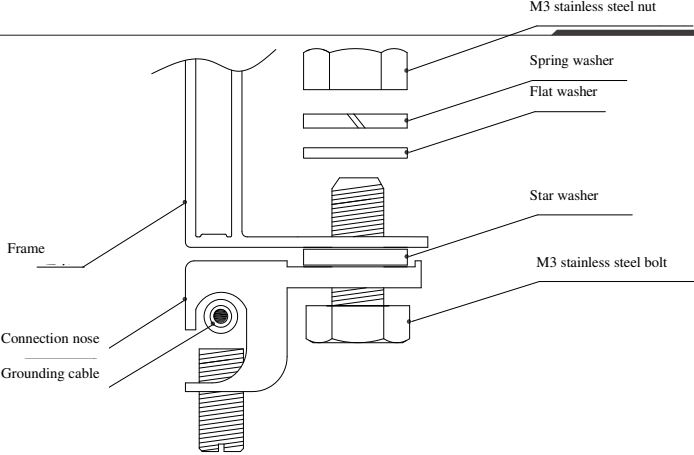

Figure 8
- First, strip the grounding cable head for a proper length. Pay attention not to damage the metal wire core during the stripping process, and insert the stripped grounding cable head into the socket of the connection nose, and then tighten the fasten screw. Connect the connection nose to the aluminum frame using stainless steel bolts and connectors as shown in Figure 8. The recommended tightening torque for M3 bolts is 2.3 N · m.